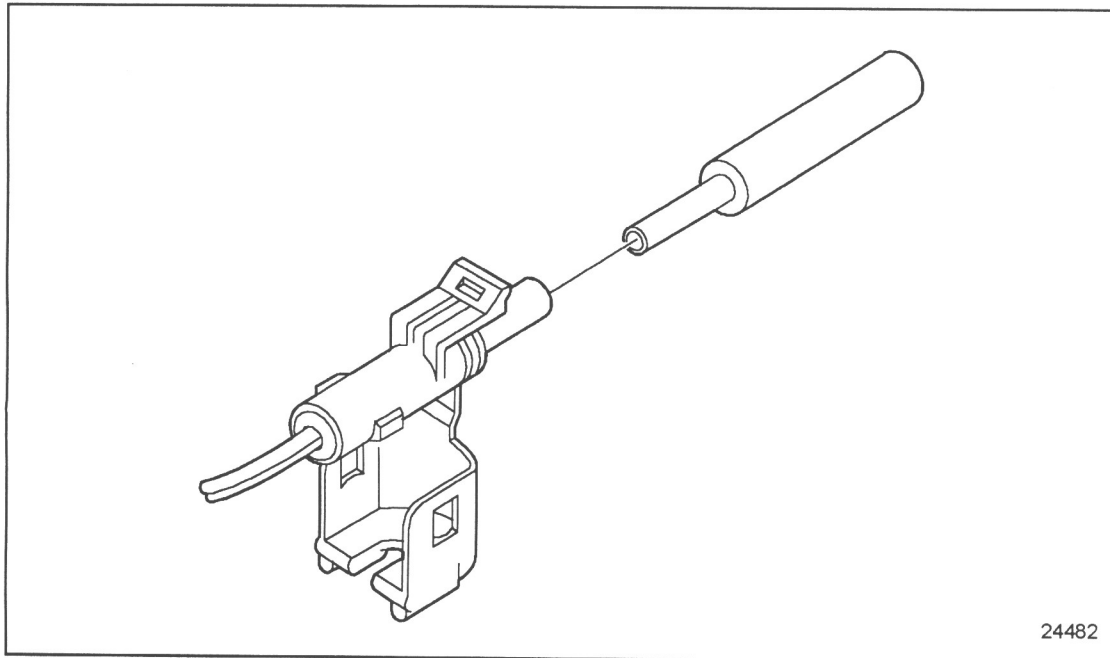

Figure 8-11 Removal Tool Procedure
5. Grasp the cable and push it forward through the connector cavity into the tool while holding the tool securely in place. See Figure 8-11.